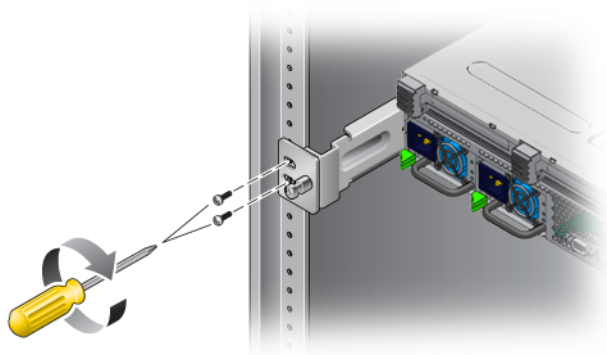

FIGURE 3-5 Securing the Rear of the Server to the Rack
9. Using two screws for each rear mount support bracket, secure the rear mount support brackets to the rear of the rack (FIGURE 3-5).